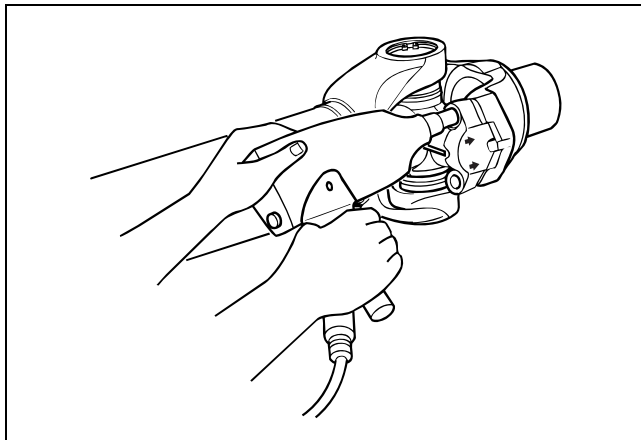

Figure 2
- Use a 12-point socket to loosen the four bolts (1/2 x 20 thread) located at one end of the driveline. Figure 2. For a coupling shaft (for example, a drive shaft with a center bearing), remove the end adjacent to the center bearing first.